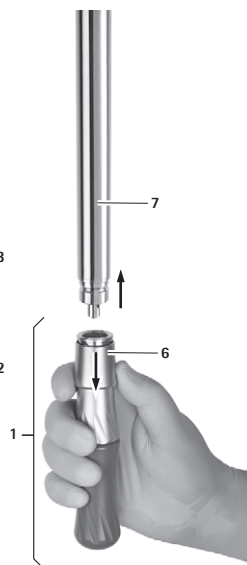

Fig. 4
- Pull back sliding sleeve 6 and couple CO₂ cartridge adapter 1 at pneumatic holding arm 7, see Fig. 4.